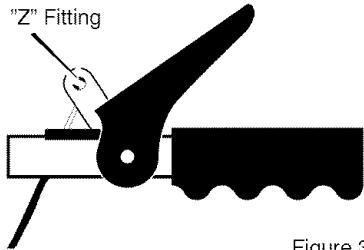

Figure 33
To check for correct adjustment, unhook "Z" fitting at clutch lever (see Figure 33).
5. Disconnect the **"Z" fitting** from the **drive lever** (see Figure 33).
11. Install the **"Z" hook** to the **traction drive lever** (see Figure 33).